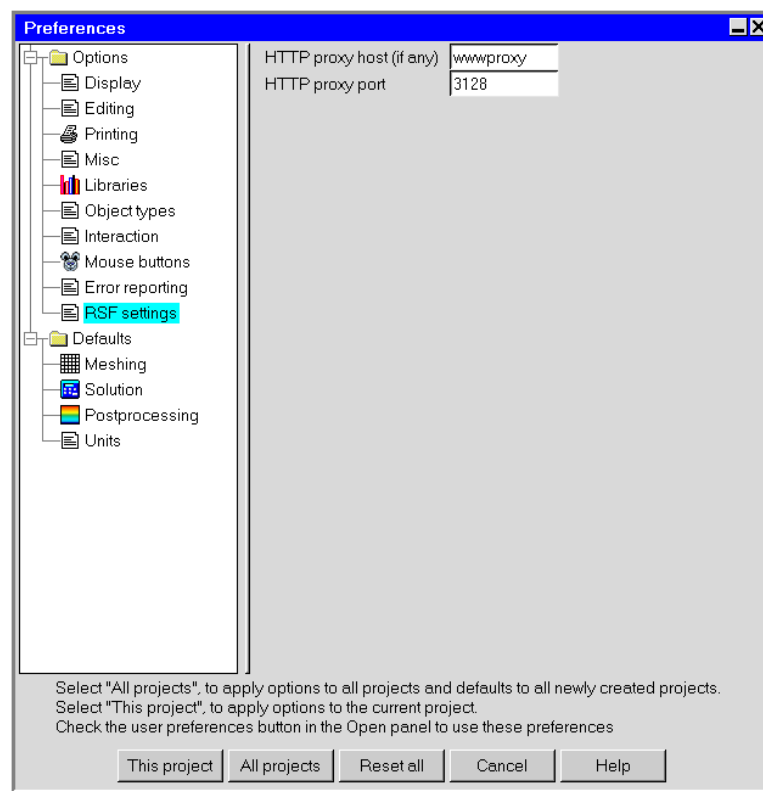

Figure 27.11.9: The Preferences panel (RSF settings)
- (a) Click the RSF settings icon in the Options folder in the Preferences panel to display the RSF options (Figure 27.11.9).